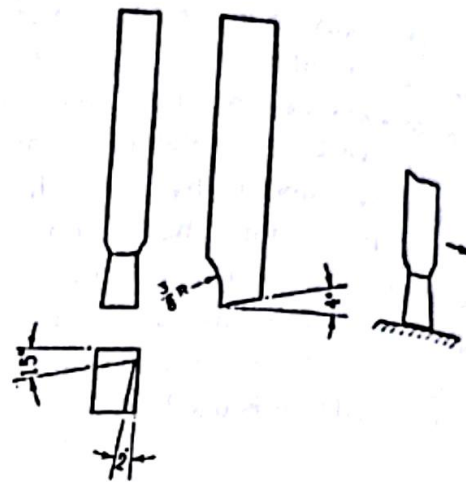

Figure 7.26 A left hand finishing tool for planing
2. A left hand finishing tool for planing (Fig.7.26)